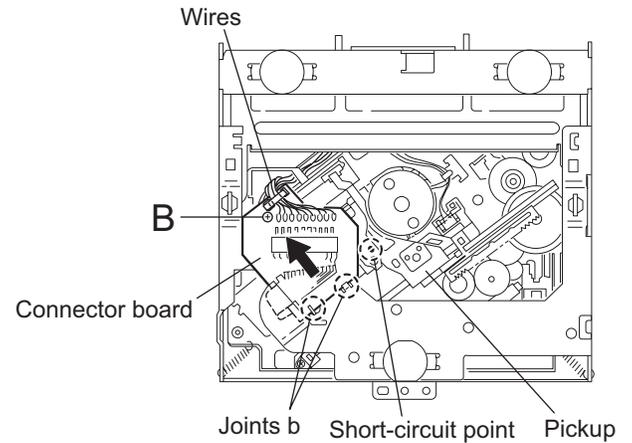

Fig.3
### 3.1.3 Removing the top chassis assembly (See Figs.3 to 6)
- (1) From the bottom side of the main body, remove the two screws **C** attaching the top chassis assembly to the bottom chassis assembly. (See Fig.3.)
### 3.2.2 Removing the connector board (See Figs.3 to 5)